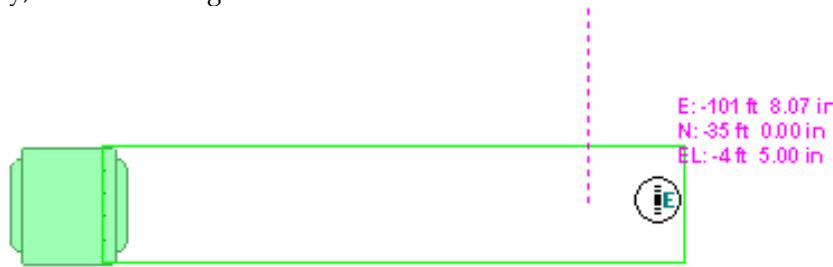

Figure 4: Plan View
28. Position the cursor in the east E direction and click to define the end point to place **25 ft** cableway, as shown in Figure 4.